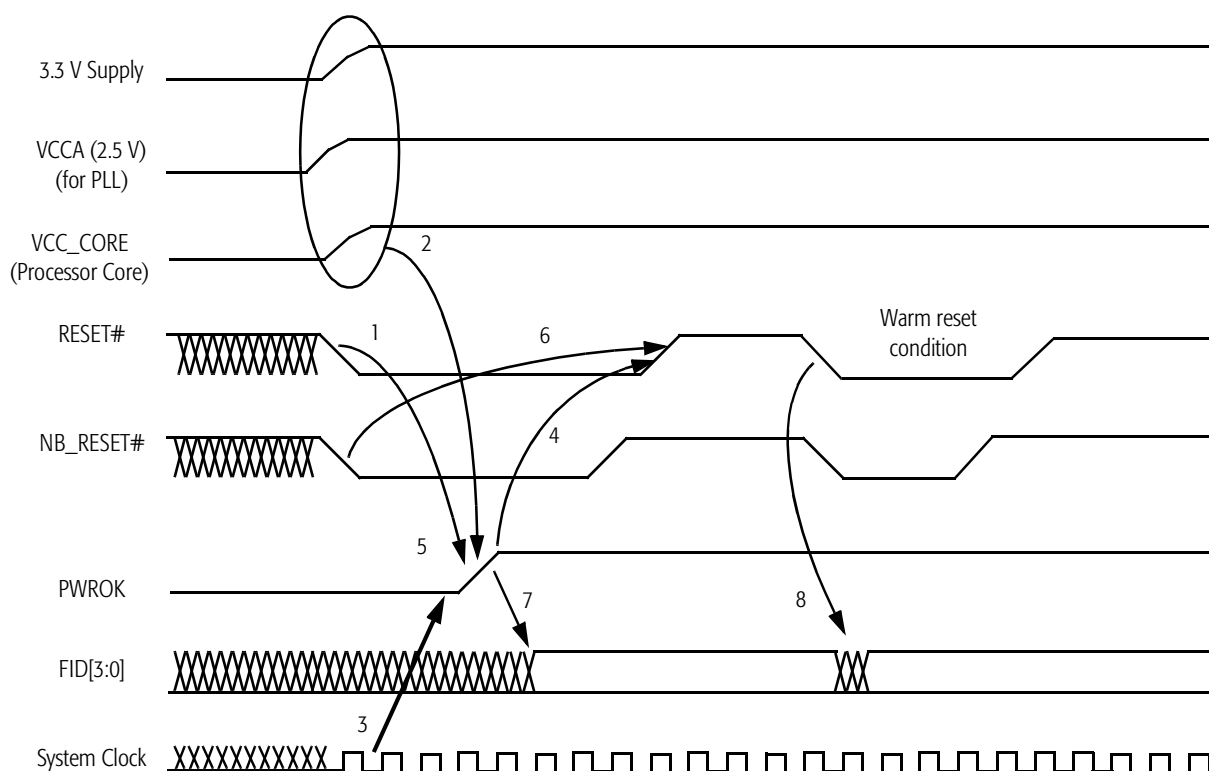

Figure 11. Signal Relationship Requirements During Power-Up Sequence
Figure 11 shows the relationship between key signals in the system during a power-up sequence. This figure details the requirements of the processor.
- Note:** 1. Figure 11 represents several signals generically by using names not necessarily consistent with any pin lists or schematics.
2. Requirements 1–8 in Figure 11 are described in “Power-Up Timing Requirements.” on page 42.